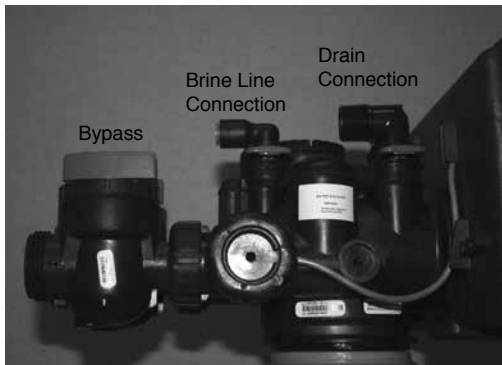

Figure 6a
5. The drain connection may be made using a 3/4" or a 1" female adapter (see figure 6a). If soldering, joints near the drain must be done prior to connecting the drain line flow control
7. Connect the brine line found in the brine tank to the brine connection on the control valve. The control valve has a standard refill elbow which a 3/8" flexible tube can be connected, see figure 6a, page 6. (An optional elbow can be ordered which accommodates a 1/2" flexible tube for a high regenerant draw rate situation). Both elbows use the same refill flow control and retainer. Do not connect the other end of the brine line to the safety brine valve in the brine tank at this time. Make sure the floor is clean beneath the salt tank and that it is level and smooth.